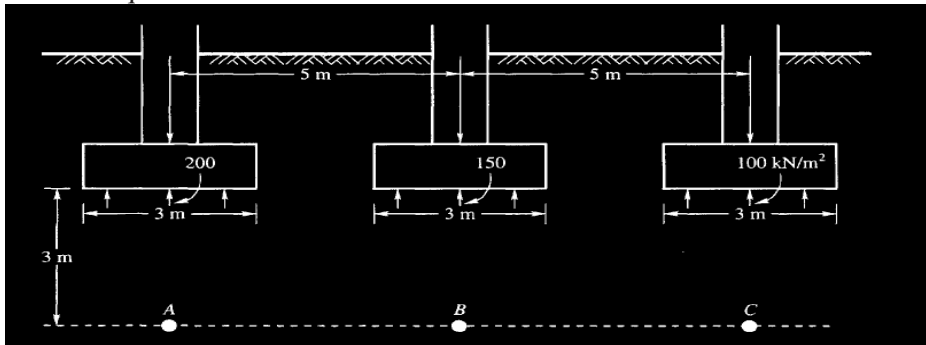

Fig. 1
- b) Three parallel strip footings (Fig. 1) 3 m wide each and 5 m apart center to center transmit contact pressures of 200, 150 and 100 kN/m² respectively. Calculate the vertical stress due to the combined loads beneath the centers of each footing at a depth of 3 m below the base. Assume the footings are placed at a depth of 2 m below the ground surface. Use Boussinesq's method for line loads.